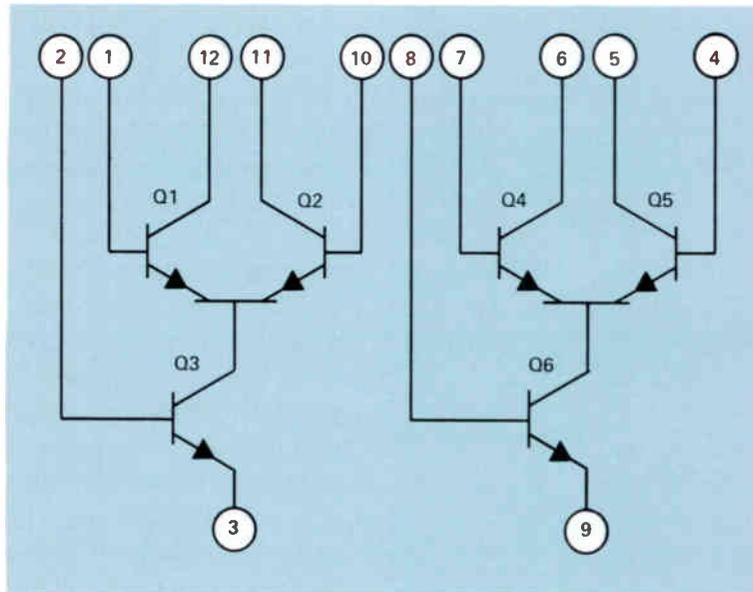

Figure 17. Schematic of a dual differential amplifier, type CA3026 IC.
The schematic diagram of an RCA type CA3026 IC is shown in Fig.17. It contains two differential amplifiers, each with a constant-current sink. Notice that there are no resistors or other parts in the IC except the transistors used in the differential amplifiers and the transistors used as current sources. The emitter of Q6, which is connected to terminal 9, is also connected to the metal case of the IC and to the IC substrate. Also notice that there are no circles drawn around the transistors. It is common practice to omit the circles around the transistors and diodes in the schematics of ICs. This indicates that they are not discrete or separate components, but are a part of an integrated circuit.
Figure 18 shows how this IC can be used as a two-stage amplifier. This is the type of diagram you'll see when ICs are used as two-stage amplifiers. As you can see, without knowing what is inside the IC it is difficult to trace out the circuit. However, by referring to Fig.17, which shows what is inside the IC, and to Fig.19, which shows the complete schematic of the two-stage amplifier, you should be able to trace out the circuitry shown in Fig.18.
Looking at Fig.18, we see that the input signal is fed to terminal 7. Figure 17 tells us
- 10 In the ICs shown in Fig.17, which transistors are constant-current sources?
- 11 What type of circuits are contained in the ICs shown in Fig.17?